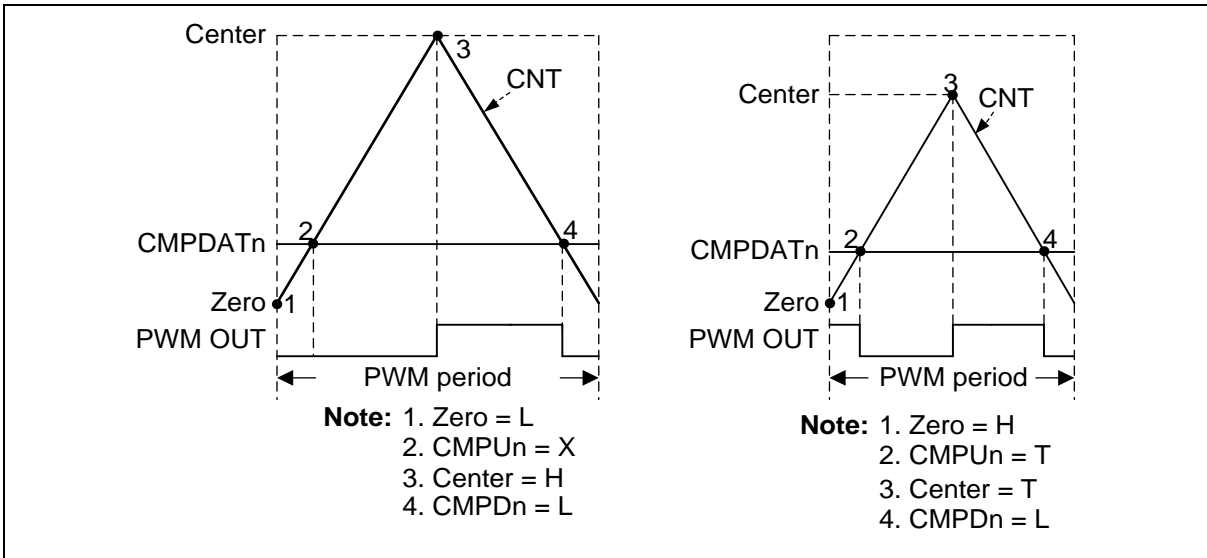

Figure 6.11-14 BPWM Pulse Generation (Left: Asymmetric Pulse, Right: Variety Pulse)
Each event point can decide BPWM waveform to do nothing (X), set Low (L), set High (H) or toggle (T) by setting BPWM\_WGCTL0 and BPWM\_WGCTL1 registers. Using these points can easily generate asymmetric BPWM pulse or variant waveform as shown in Figure 6.11-14. In the figure, there is a comparator n to generate BPWM pulse, whrer n denotes channel number 0 to 5. CMPU denotes CNT is equal to CMPDAT when counting up, and CMPD denotes CNT is equal to CMPDAT when counting down.